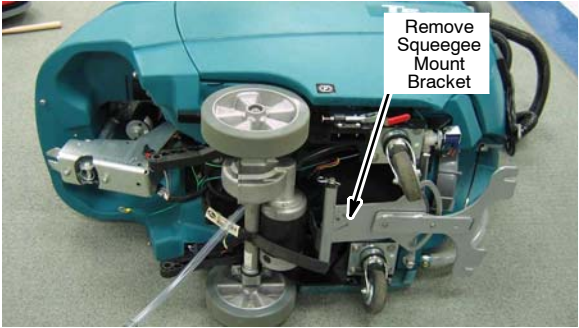

Fig. 33
1. On a level non-marring surface carefully lay the machine on its right side and remove the squeegee mount bracket (Figure 33).